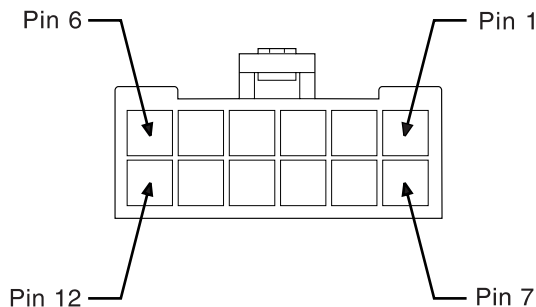

Figure 10. Ground pins (-48 V 2104 Model DS4)
7. Check for continuity between the chassis of the 2104 Model DS4 and the ground pins 1 and 7 of each mainline-power connector. See Figure 10.